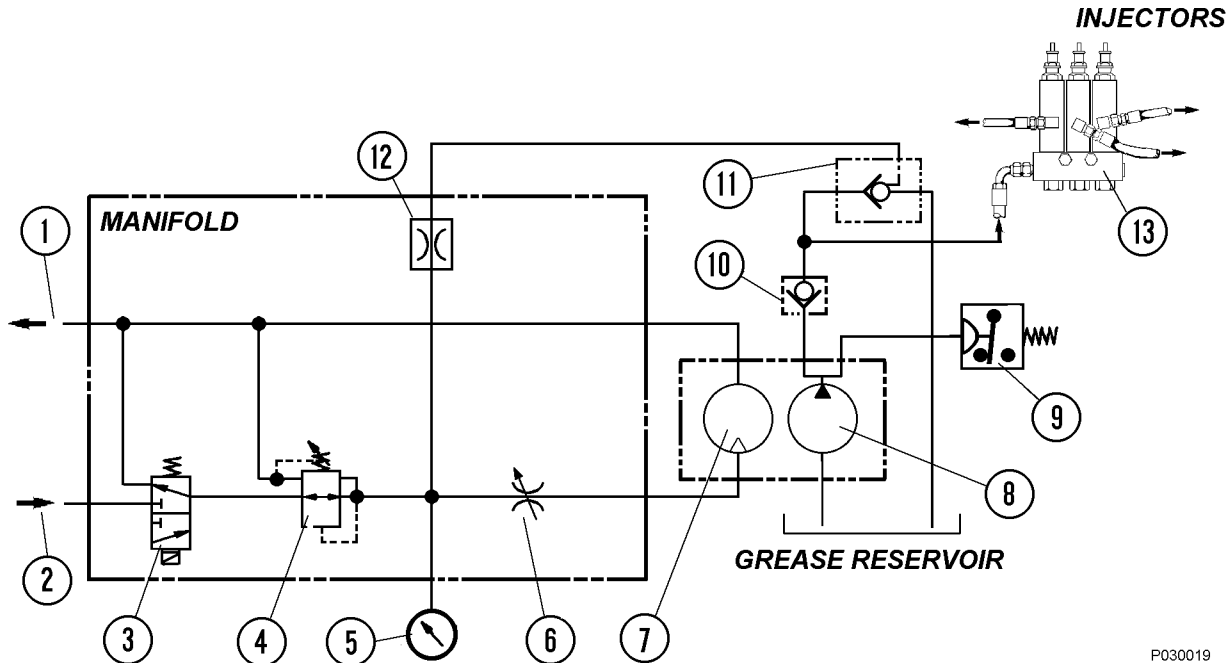
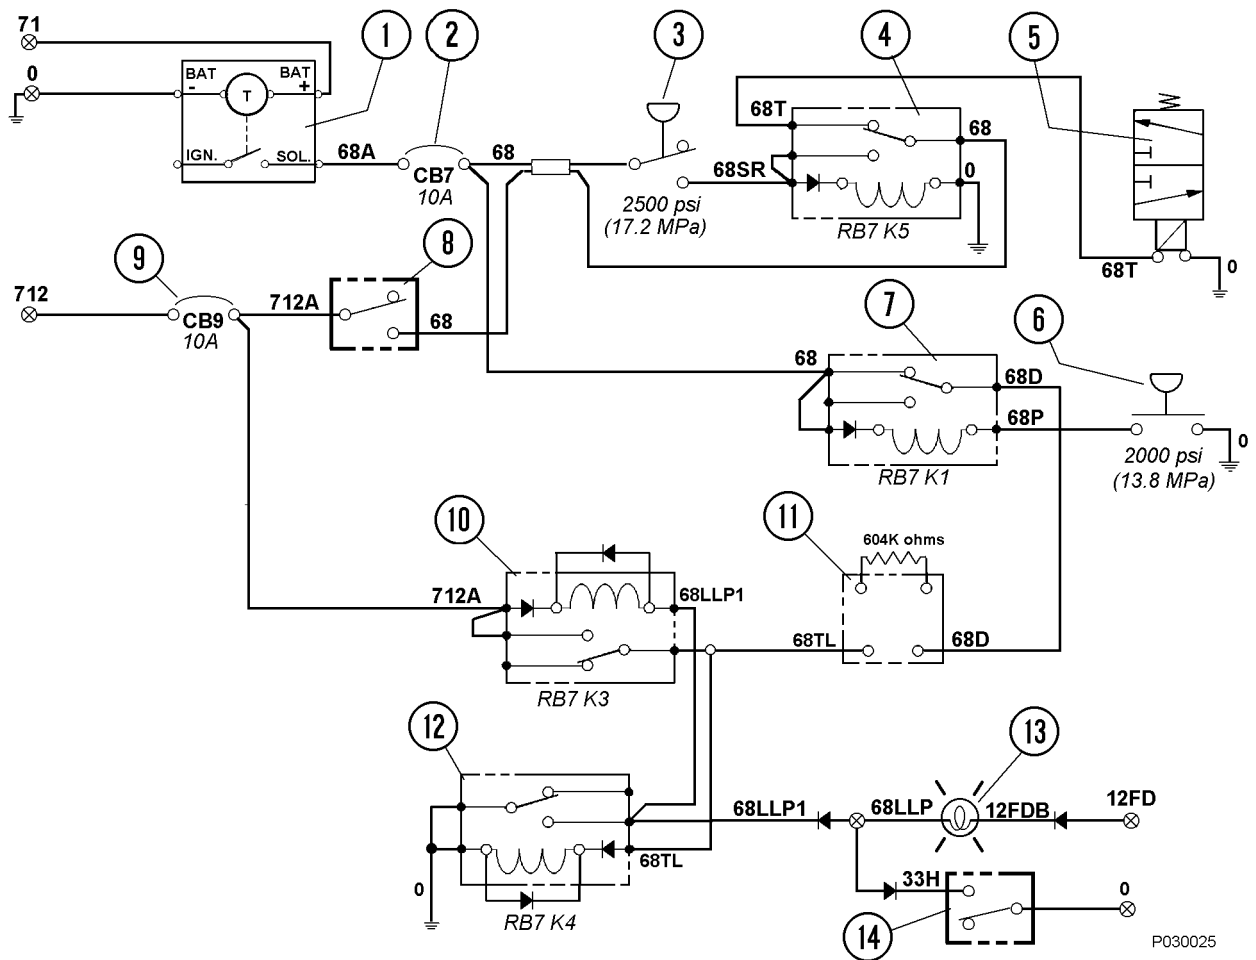

FIGURE 42-3. HYDRAULIC SCHEMATIC
FIGURE 42-4. ELECTRICAL SCHEMATIC
Lubrication Cycle Timer (1, Figure 42-4)
Delay Timer (11, Figure 42-4)
1. During truck operation, the lubrication cycle timer (1, Figure 42-4) will energize the system at a preset time interval.
2. The timer provides 24 VDC through the normally closed relay, RB7K5 (4) used to energize the pump solenoid valve (5), allowing hydraulic oil provided by the truck steering pump circuit to flow to the pump motor and initiate a pumping cycle.
3. The hydraulic oil pressure from the steering circuit is reduced to 325 to 350 psi (2 240 to 2 413 kPa) by the pressure reducing valve (4, Figure 42-3) before entering the motor. In addition, the amount of oil supplied to the pump is limited by the flow control valve (6). Pump pressure can be read using the gauge (5) mounted on the manifold.
4. With oil flowing into the hydraulic motor, the grease pump will operate, pumping grease from the reservoir to the injectors (13), through a check valve (10) and to the vent valve (11).
6. When grease pressure reaches the pressure switch (3, Figure 42-4) setting, the switch contacts will close and energize the relay RB7K5, removing power from the hydraulic motor/pump solenoid and the pump will stop. The relay will remain energized until grease pressure drops and the pressure switch opens again or until the timer turns off.
1. When the lubrication cycle is initiated, 24VDC flows through relay RB7K1 (7, Figure 42-4) N.C. contacts to a 1 minute delay timer (11).
2. If the system is operating normally, grease pressure at the rear axle injector bank will rise to pressure switch (6) setting of 2000 psi (13.8 MPa) and energize relay RB7K1 (7), removing 24VDC from the delay timer.
3. If a problem occurs and the system is not able to attain 2000 psi (13.8 MPa), the delay timer (11)
- will energize relay RB7K4 (12) after 60 seconds, turning on the “low lube system pressure” warning lamp on the overhead display. After RB7K4 relay energizes, it will energize relay RB7K3 (10).